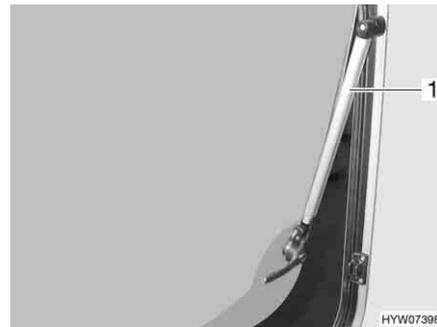

Fig. 59 Hinged window with automatic hinge
- Hinged window with automatic hinge: Open the hinged window to the desired latched position. The automatic hinge (Fig. 59,1) locks in place automatically.